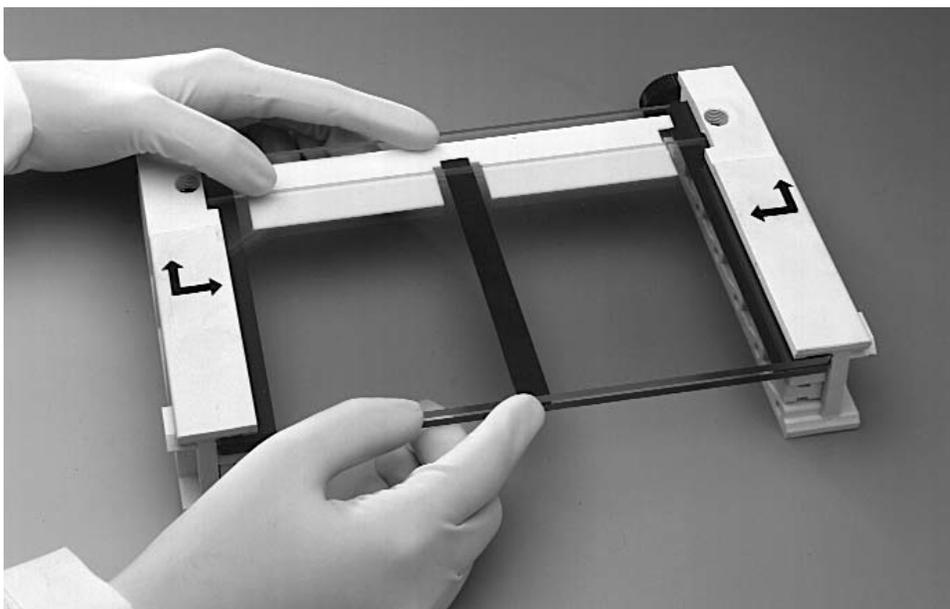

Fig. 4.8. Positioning the middle spacer in a 7.5 x 10 cm gel sandwich assembly.
9. Place the proper comb in the sandwich and align it against the notches in the spacers. For the 7.5 x 10 cm perpendicular gradient gel, insert the middle spacer into the center of the sandwich until it fits into the middle notch on the comb. Straighten the spacer and the comb. The bottom of the middle spacer should also be flush against the glass plates (Figure 4.8).